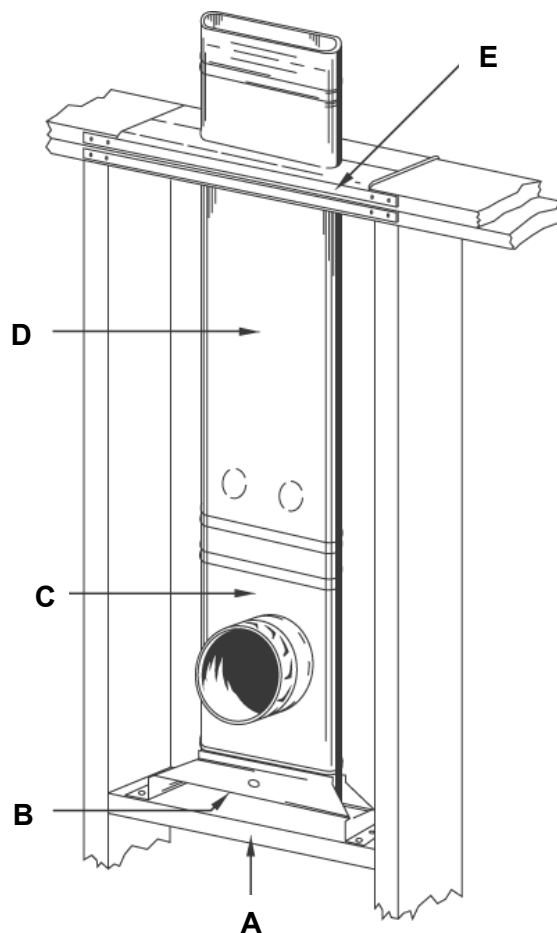

Figure 17
- The Firestop Spacer (FS) must be installed at each floor level. See **Figure 17**.
NOTE: Only the straight Vent Pipe Sections, with or without the Oval Tee, may be used inside the stud bay with reduced clearances to combustibles. See **Figure 17**.
- Nail a 2x4 support (A) at the desired height between the studs. See **Figure 17**.
- Attach the Tee Support (B), the Tee (C) with the Oval Tee Cap, and the Vent Pipe (D) as shown on **Figure 17**.
- At each floor level above the Tee, install the Firestop Spacer (E) as shown in **Figure 17**.